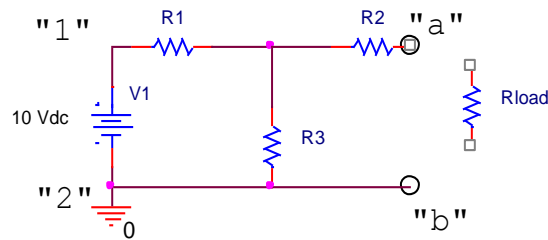
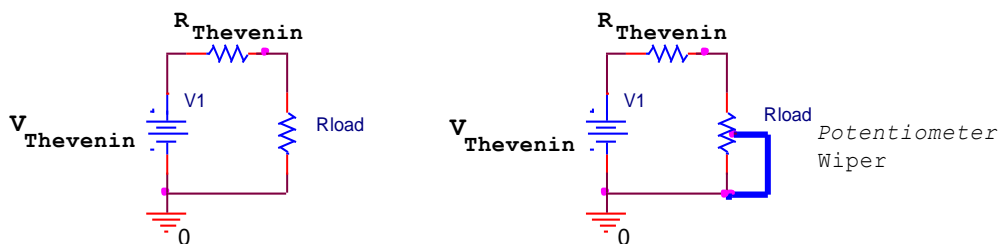

Figure 2. Linear resistor network.
Figure 3. Maximum power network.
2. Construct the circuit shown in Figure 2 on the protoboard. Using a multimeter, measure the voltage between points "a" and "b" with NO LOAD connected. Record your measurement in column 6. This is $R_{Th\grave{e}venin}$ by definition.
- Now construct the network shown in Figure 2, but replace R_{load} with a potentiometer connected between "a" and "b." The equivalent circuit is shown in Figure 3. We will now determine $r_{thevenin}$ using the potentiometer.
- Calculate the maximum power delivered to the load using equation (2).